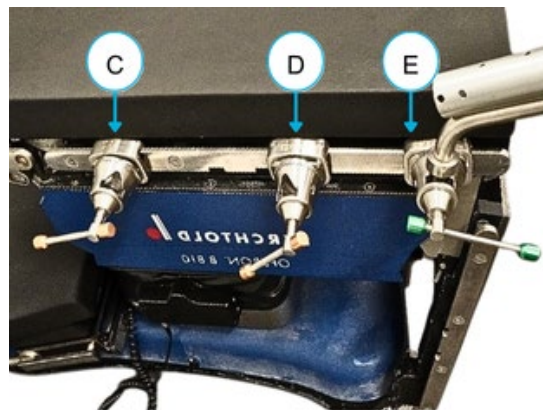
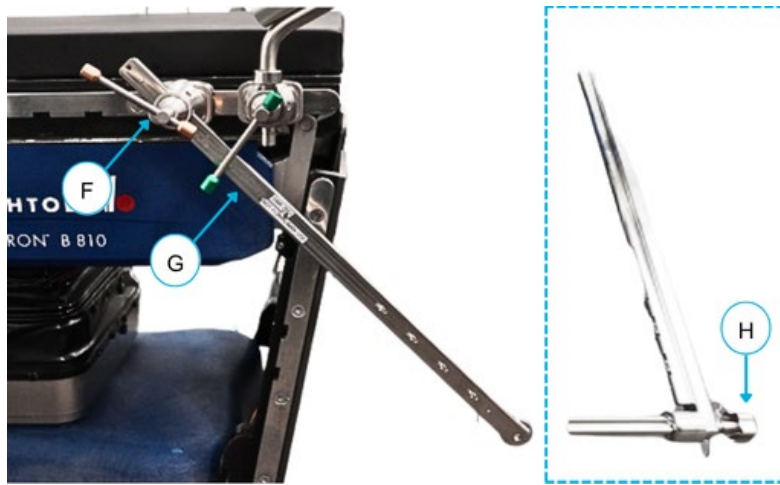

Figure 10-13: Clark Clamp Positions
Figure 10-14: Vertical (long) Stabilizer Mounts Attachment
- Attach the First Clamp (D) next to the stirrup clamp (E) (**Figure 10-13**)
- Position the second Clark Clamp (C) approximately **15-45 cm (6-18 in)** past the first clamp (D) (towards the head of the bed)
4. Place one Vertical (long) Stabilizer Mount (G) into the Clark Clamp (F) (**Figure 10-14**) next to the stirrup clamp (**Figure 10-13**).